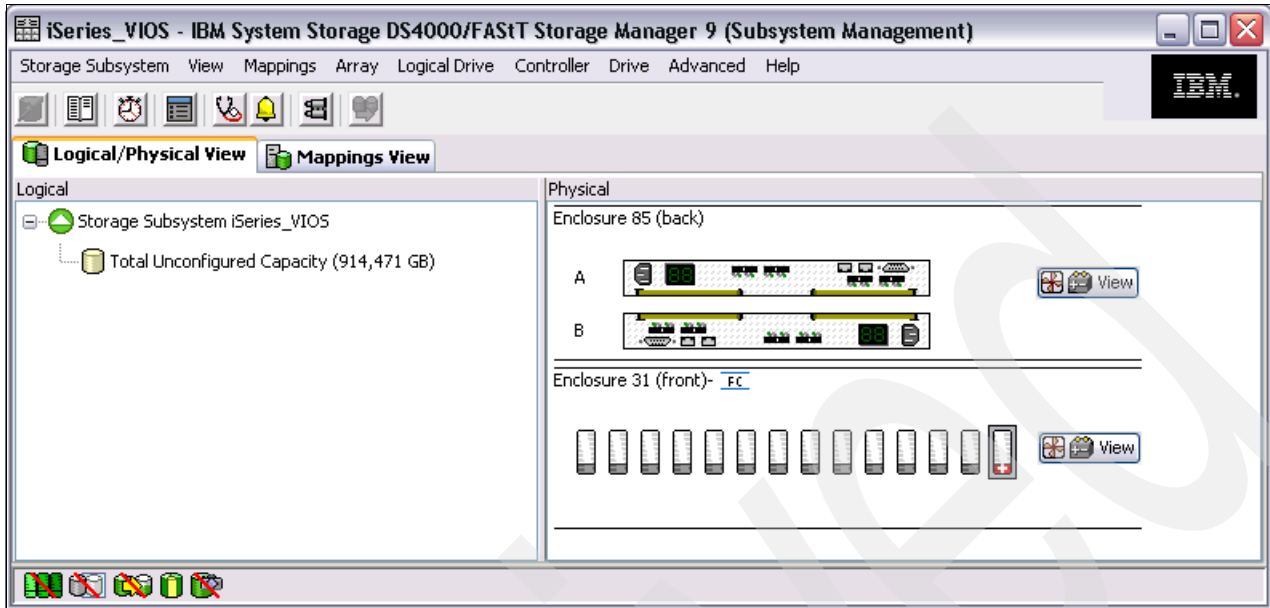

Figure 7-48 DS Storage Manager view after hot spare creation
5. Our previously selected drive has now become a hot spare drive as indicated by the white on red cross, as shown in Figure 7-48.